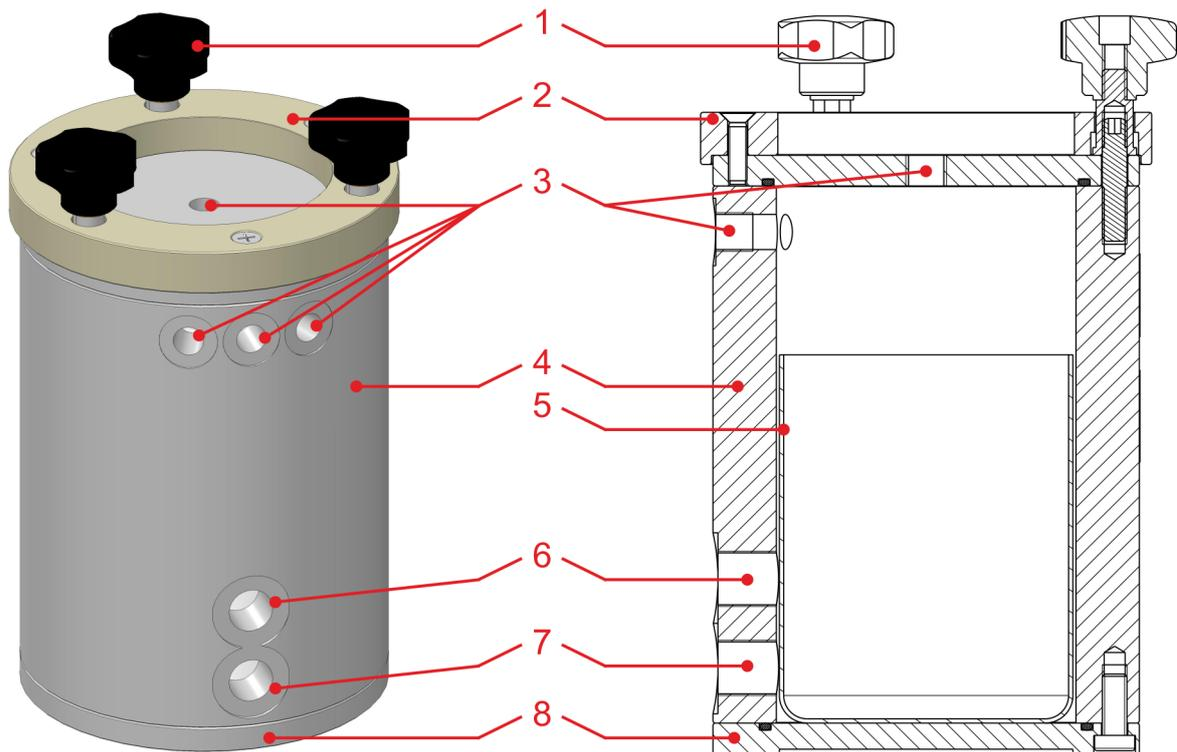

Fig. 2: Structure of the pressure vessel
The pressure vessel is equipped with four air/product connection thread boreholes G ¼" (Fig. 2, item 3). One of the connection threads is placed at the centre in the lid, the remaining three in the upper area of the vessel jacket.
Below the three G ¼" connection threads, there are two M 18 x 1 connection threads (Fig. 2, item 6 and item 7) attached for supporting the capacitive sensors for empty and reserve signals.